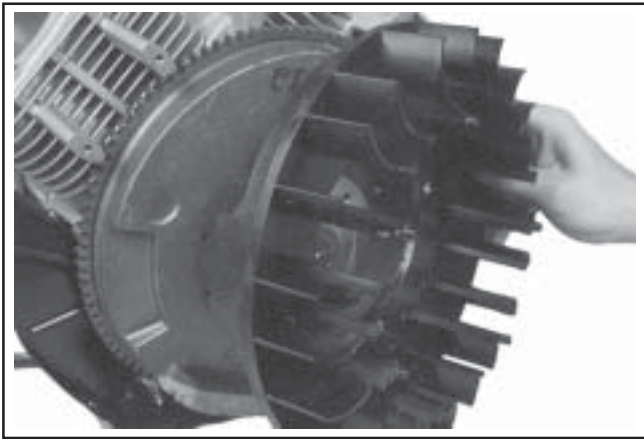

Figure 9-61. Removing Fan.
2. Remove the four hex flange screws and fan. See Figure 9-61.